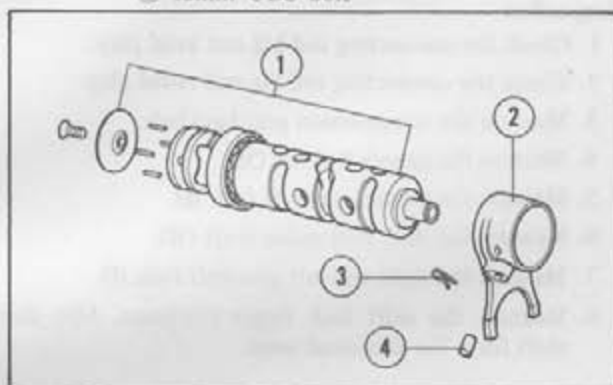

Fig. 4-85 ① Gearshift drum
② Right crankcase
③ 12mm UBS bolt
5. Install the gearshift drum and center gearshift fork as shown in Fig.4-85.